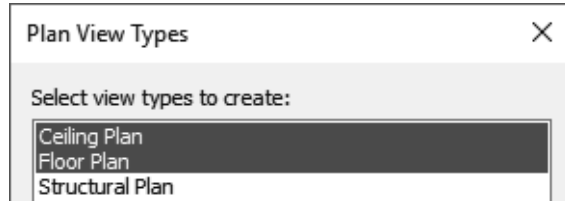

Figure 1–25
7. Add three more levels above **Floor 2** with a distance of **12'-0"** between each level, and two levels below **Floor 1** with a distance of **10'-0"** between them. Rename them as shown in Figure 1–26. Click **Yes** to rename the corresponding views.